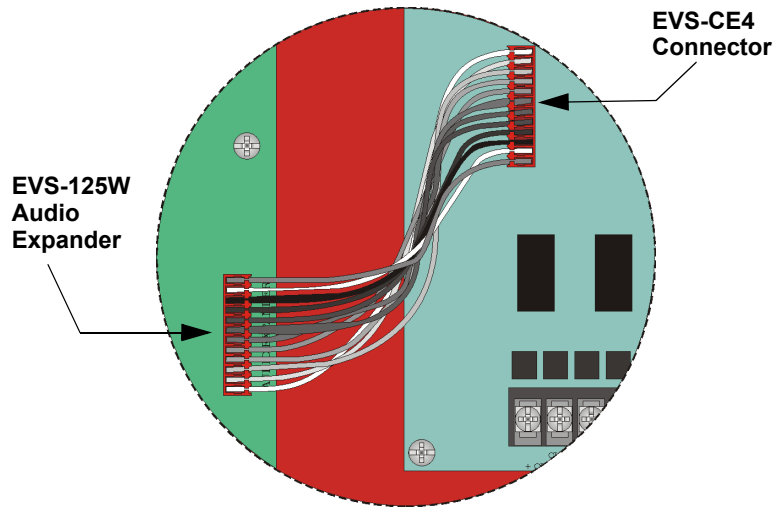

Figure 4-36 Audio Expander Wire Harness Connections
2. Connect the audio expander cable harness (P/N 130426) from the connector labeled “Audio Expander” on the EVS-50W/EVS-125W to the connector on the EVS-CE4 as shown in Figure 4-36.